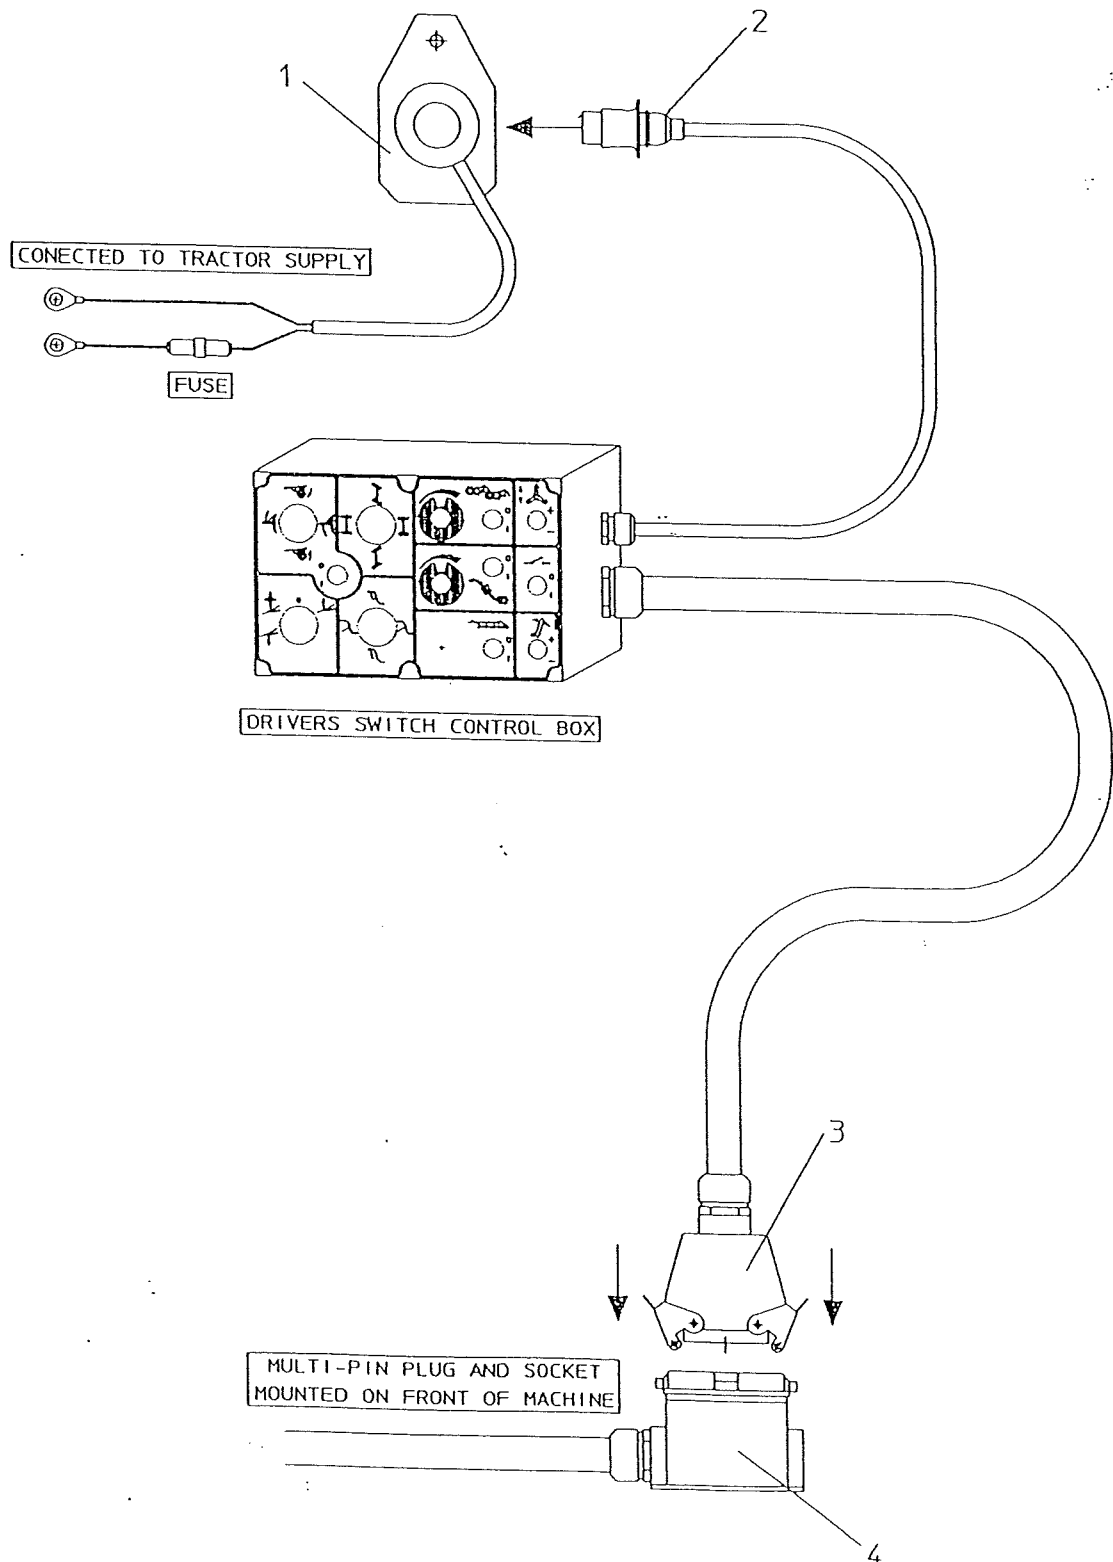

Fig 5.5
The harvester is supplied with a power supply lead (Fig 5.5 item 1), consisting of a pre-wired three pin socket, mounted on a plate. One wire of this cable is fitted with an in-line fuse, (rated at 17.5 amp continuous, 35 amp blow) this wire should be connected, via a suitable route on the tractor, to either the positive battery terminal, or the positive terminal on the starter solenoid. The other wire in the pre-wired socket is the earth wire, it should be connected to either the battery negative terminal, or to a suitable earth point on the tractor (Fig 5.5).
The thinner cable emanating from the switch control box terminates in a three pin plug (Fig 5.5 item 2), and should be connected to the power supply socket (see section 5.3.3).
At the side of the drivers switch control box is a thick cable terminating in a multi-pin plug (Fig 5.5 item 3), this should be connected to the multi-pin socket on the front of the harvester (Fig 5.5 item 4). Make sure that the anchor clips on the socket are securely fastened.